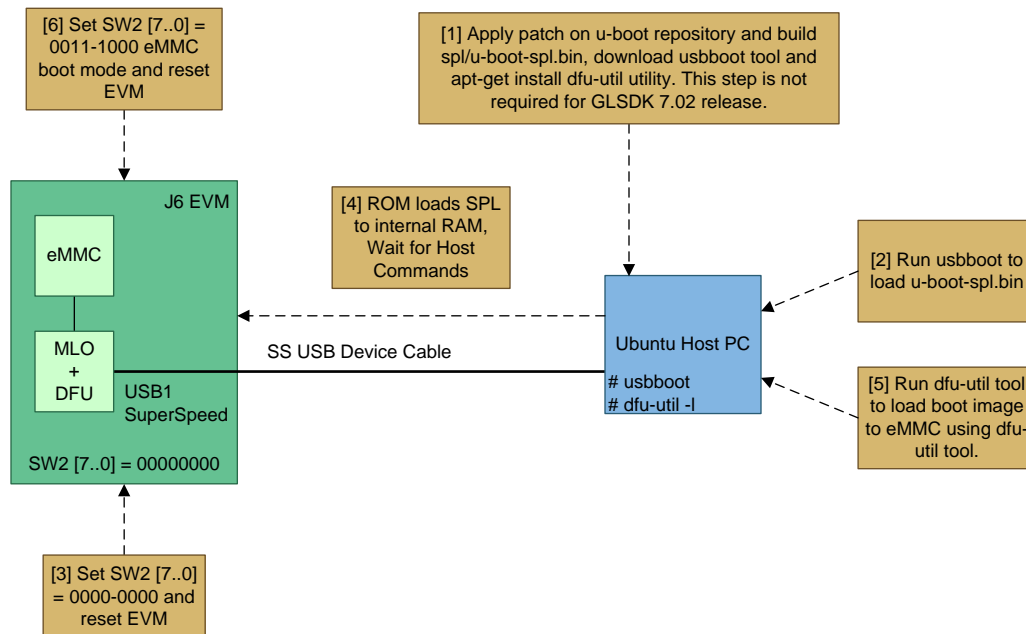

Figure 3. Setup of Flashing eMMC From ubuntu-host Using USB Interface
Figure 3 shows the setup, where J6 EVM with the SW2 switch are set to the peripheral USB boot mode connected to the Ubuntu Host PC through a super speed (SS) USB device cable. From the Ubuntu host, the usbbboot is used to load the single stage bootloader (MLO+DFU) and dfu-util tool that are used to flash the boot images to the eMMC device.